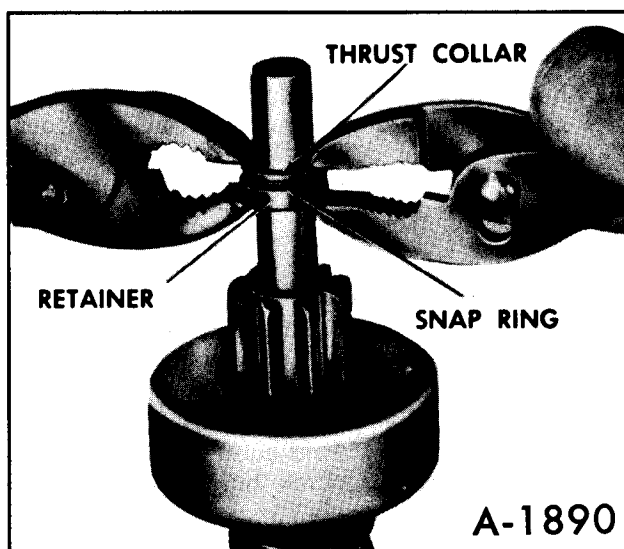

Figure 77—Installing Retainer and Snap Ring
- f. Position retainer and thrust collar next to snap ring. Using two pliers, grip retainer and thrust collar and squeeze until snap ring is forced into retainer and is held securely in groove in armature shaft. (figure 77)